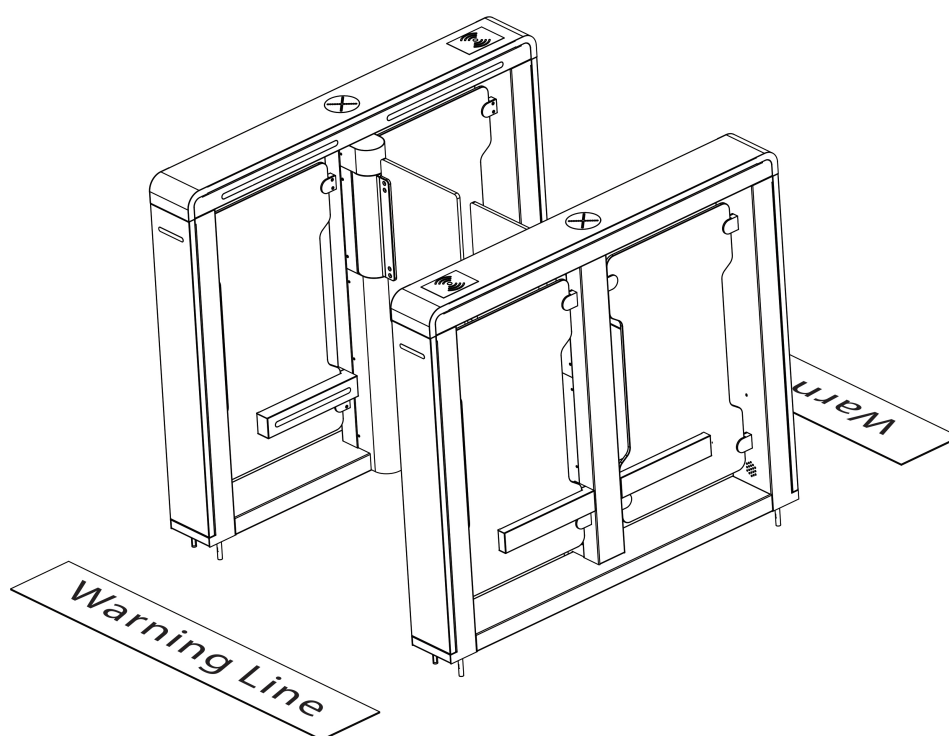

Figure 2-3
- ◆ It is recommended that a warning line be marked on the ground after installing the device, so as to prompt the pedestrian to stand behind the warning line when swiping the card, as shown in Figure 2-3: